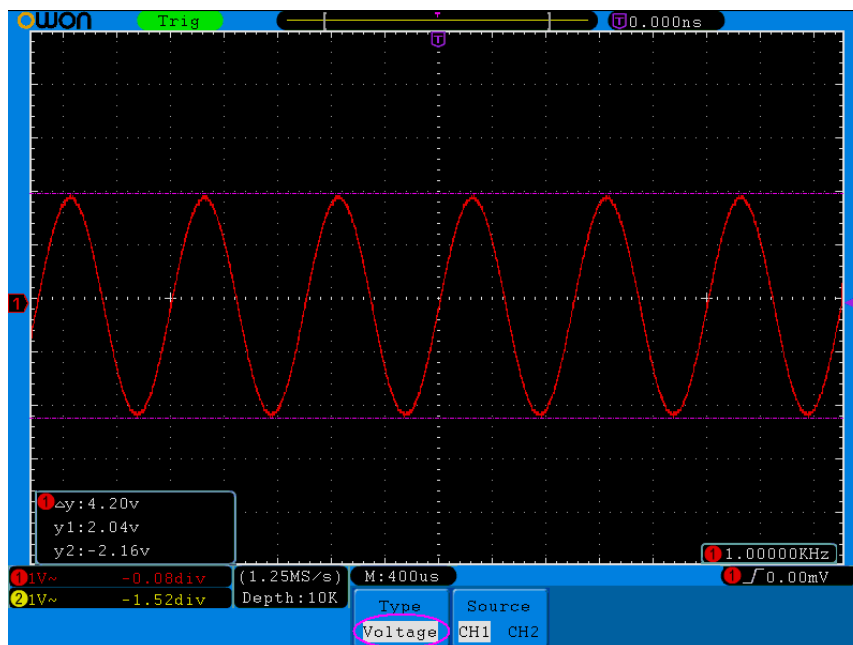

Fig.5-58 Waveform of Voltage Cursor Measurement
4. According to the measured waveform, adjust the positions of Cursor1 and Cursor2 by turning the **VERTICAL POSITION** knob of CH1 and CH2. Cursor increment window at the left bottom of waveform shows absolute value of D-value of cursor 1 and cursor 2 and the present position of the two cursors. (See **Fig.5-58**).